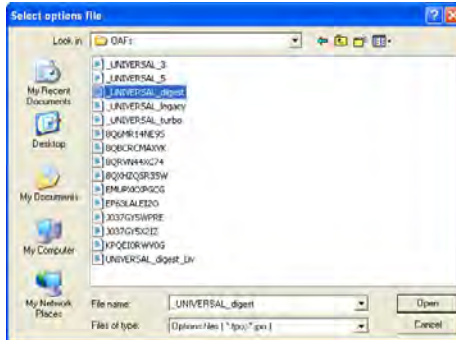

Figure 5-17. Load OAF
- Navigate to the location of the new Option Authorization File. OAFs have .jpo or .tpo extensions and are unique to each receiver (Figure 5-17).
- Select the appropriate file and click **Upload to the Receiver** (Figure 5-17). The new receiver option loads onto the receiver and the Option Manager table updates.
3. Navigate to the location of the new Option Authorization File. OAFs have .jpo or .tpo extensions and are unique to each receiver (Figure 5-17).
4. Select the appropriate file and click **Open** (Figure 5-17). The new receiver option loads onto the receiver and the Option Manager table updates.